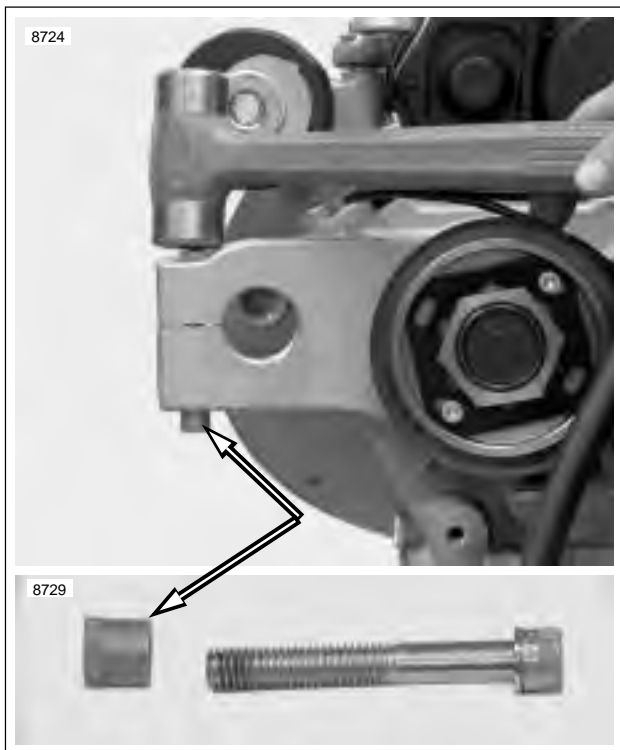

**Figure 3-28. Center Tie Bar Mount**
- b. See Figure 3-28. Center tie bar mount.